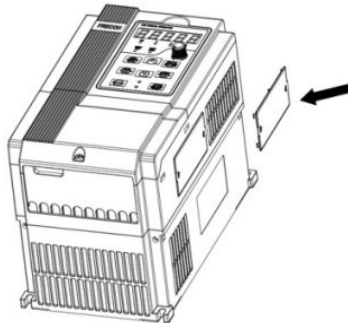

Fig.3-8 Dust cover installation and removal
a. Install dust cover:The dust cover shown in Fig3-8 parallel to the housing assembly (No cock around is installed) .